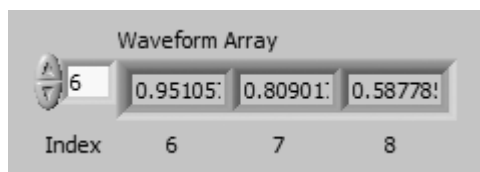

Figure 8.21
7. Place the Positioning tool on the lower-right corner of the array until the tool becomes a grid, and drag. The indicator now displays several elements with indices ascending as you go from left to right (or top to bottom), beginning with the element that corresponds to the specified index, as illustrated in Figure 8.21. (The list of indices below the indicator is a free label used for illustration purposes and won't appear on your panel.) Don't forget that you can view any element in the array simply by entering the index of that element in the index display. If you enter a number greater than the array size, the display will dim.